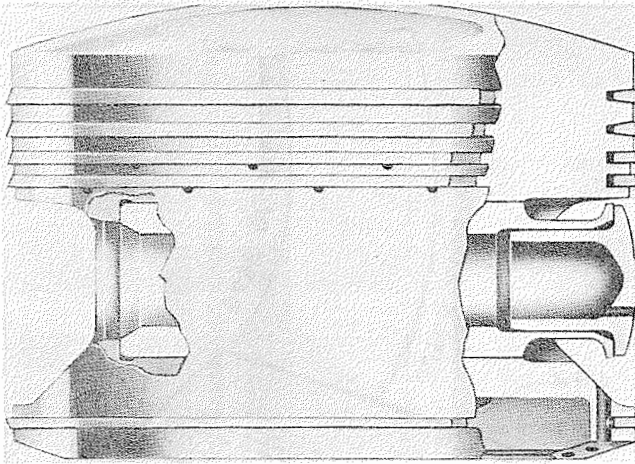

Figure 7-72. Piston Configuration
c. Ensure that piston rings are installed correctly prior to installation of the piston. See figure 7-72 for correct ring installation.
plug will then bear against the cylinder wall, holding the pin in place. See figure 7-72. Coat the piston rings with castor oil and stagger the gaps.